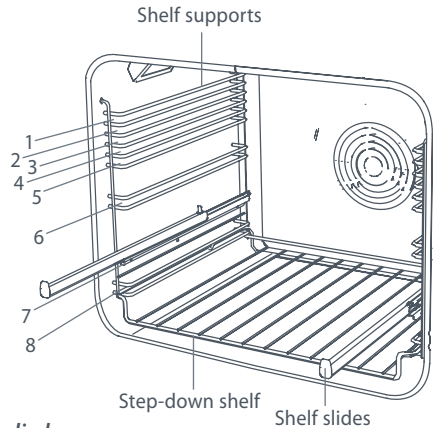

Fig. 12 Shelf positions
- For all shelf positions (unless your oven is supplied with shelf slides on position 7) make sure you fit shelves and the grill/roast pan between the metal runners of the shelf supports, as shown in Fig.12.